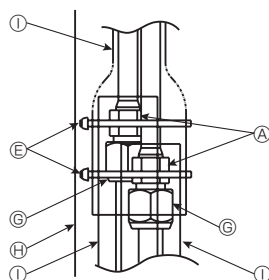

Fig. 3-11
- (3) Cover the joint with a pipe cover, and fix them with a band (E). (Fig. 3-11)